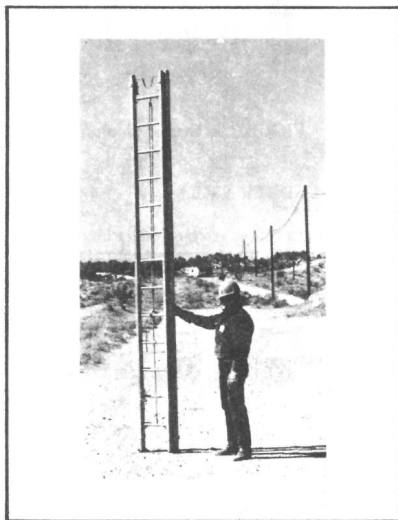

FIGURE 1. Standard Wood Extension Ladder
1.02 This practice provides the proper and safe procedures for handling the various types of wood extension ladders and attachments presently used in the Continental Telephone System. Figure 1 shows a standard wood extension ladder.
4.01 Use only **standard** extension ladders (Figure 1). **Do not use ladders with broken or missing rungs, broken side rails, broken locks, or defective ladder ropes.**